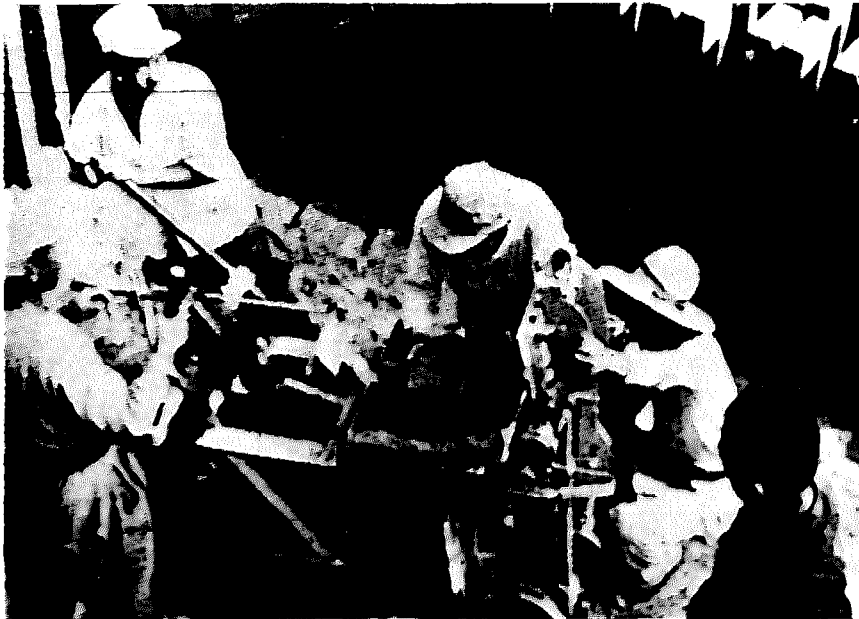

Figure 48.
*LANDCRETE*—The Landcrete press is manufactured by Messrs. Landsborough and Findlay (South Africa) Ltd., Johannesburg, South Africa. (Figure 48.) It is a hand-operated press which was developed especially for making blocks and bricks from stabilized soil. It is a well-designed machine, very sturdily built, and easy to use. The manufacturer claims that the hand-operated machine will make 100 to 150 blocks per hour. A power-driven model is also available which will make 500 bricks per hour. The machine weighs too much to be easily moved. Various shapes of blocks which may be molded with the machine are illustrated in Figure 49. The many available shapes allow blocks for making corners, interior partitions and many other special uses. Landcrete blocks have an interlocking feature which aids in laying them.